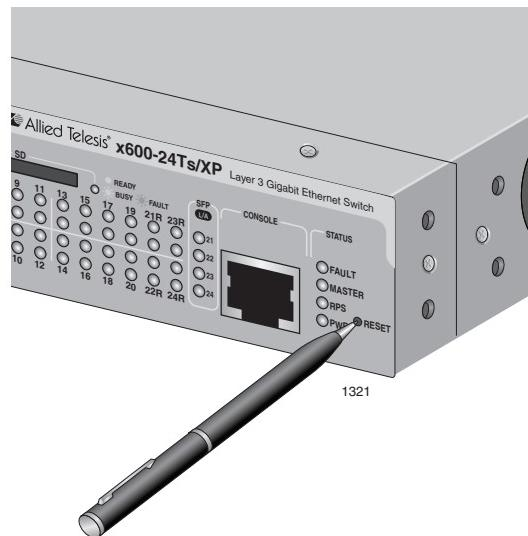

Figure 21. Resetting the Switch
2. Press the RESET button with the tip of a pen or a similar nonconducting object as shown in Figure 21.